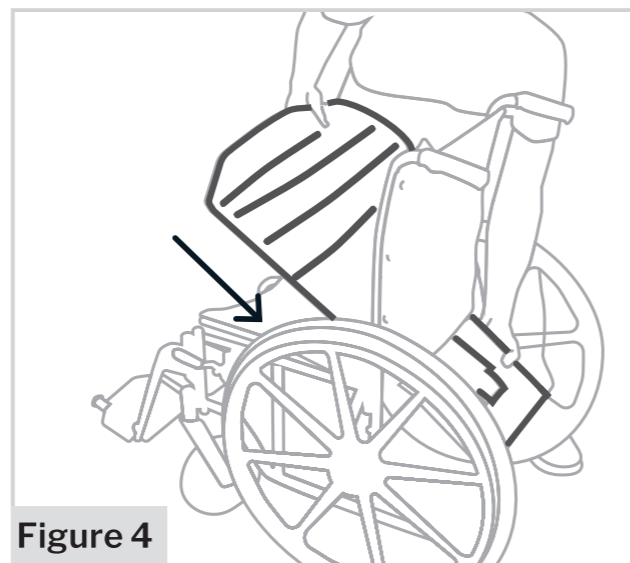

Figure 4
B. Insert the back part / Air Supply unit in the space between the back and the seat of the wheelchair - **Figure 4**.